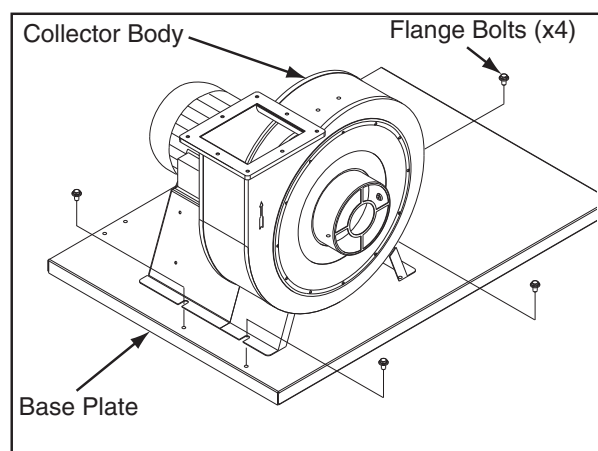

Figure 15. Motor and impeller assembly installed onto the base.
3. Turn the base over, align the motor and impeller assembly with the mounting holes, then secure the assembly with (4) $\frac{5}{16}$ -18 x $\frac{1}{2}$ " flange bolts, as shown in **Figure 15**.